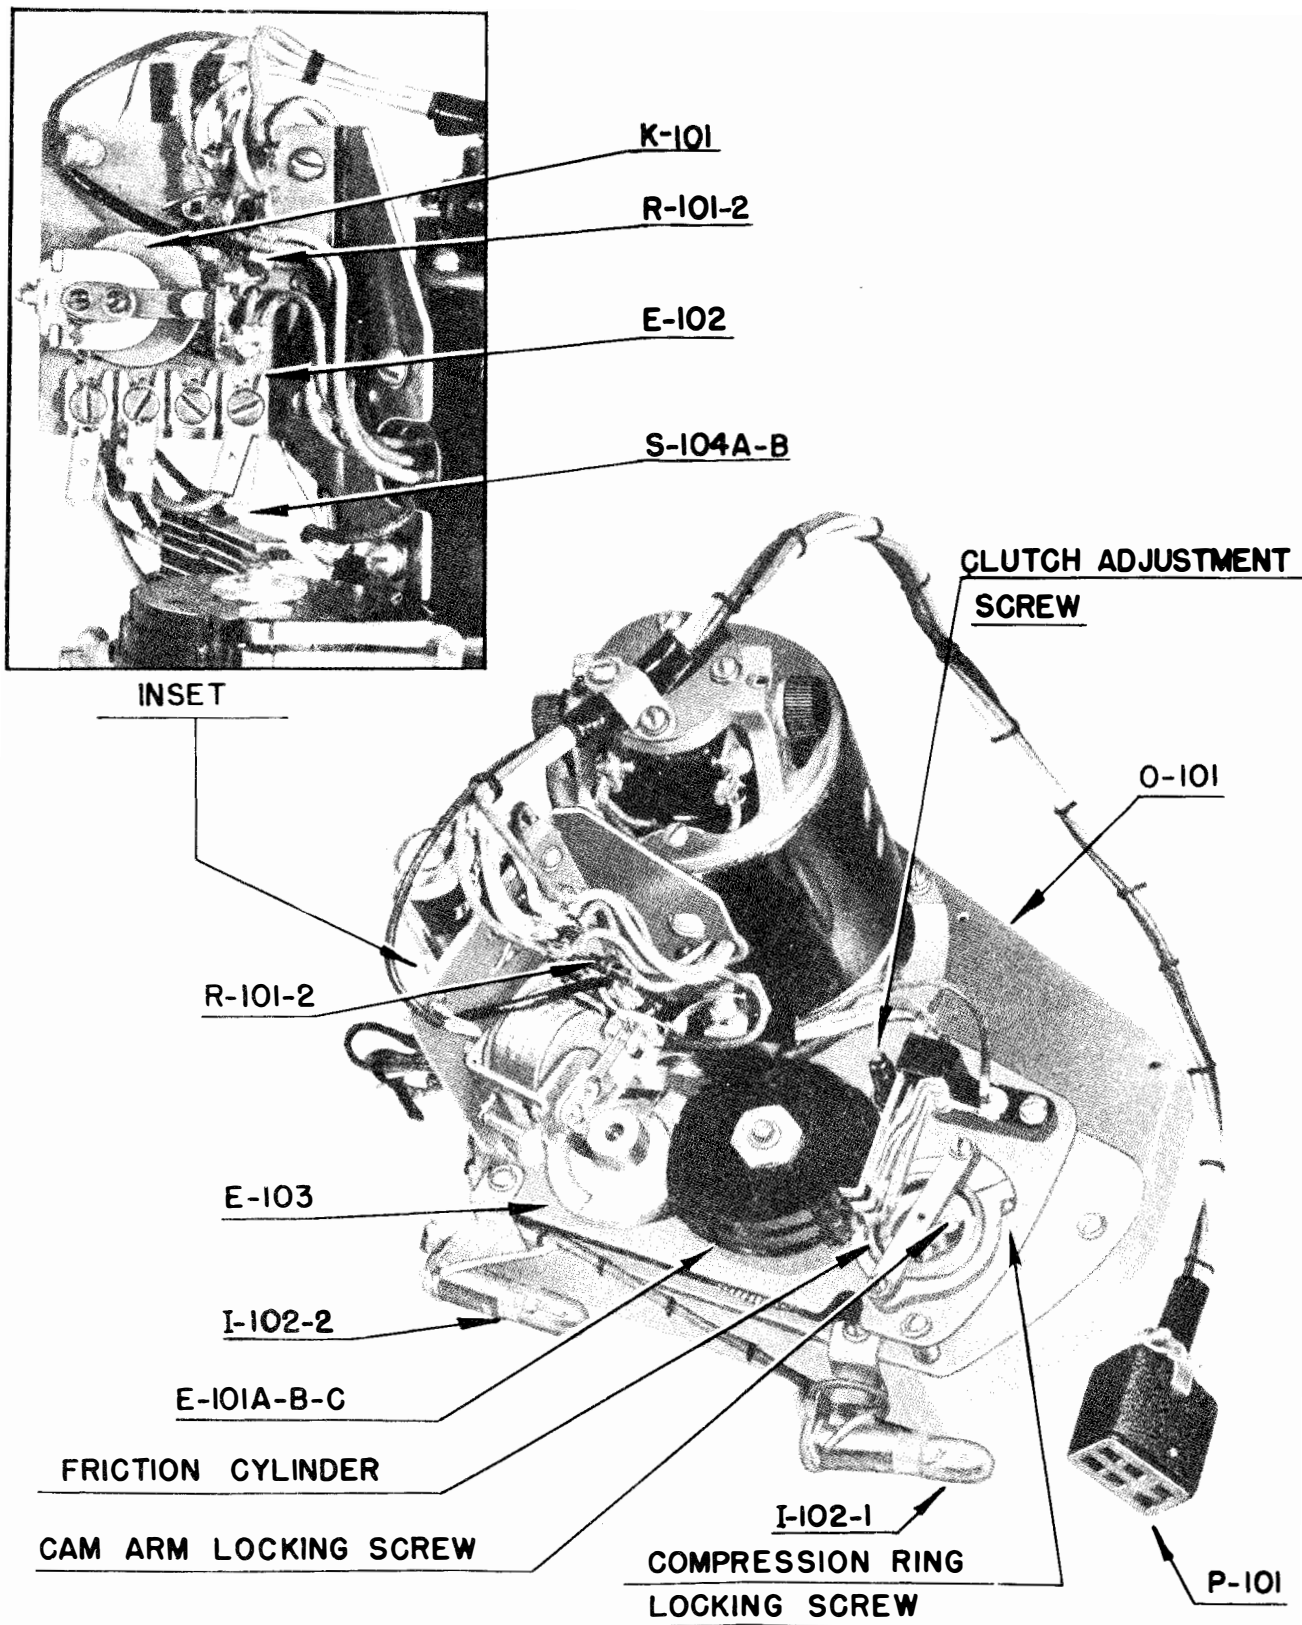

Figure 22—Gear Train and Keying Mechanism
d. If adjustment of the timing mechanism is ABSOLUTELY necessary, first try to correct by use of the fine adjustment. Loosen the compression-ring locking screw and rotate the friction cylinder; the conical inner surface causes the braking action to increase when the cylinder is rotated clockwise (lower speed) and causes the braking action to decrease when rotated counter-clockwise (higher speed). Rotate the friction cylinder by using a scribe or other sharp-pointed object in the holes provided in the cylinder (see fig. 22). Following this adjustment tighten the compression ring locking screw.
e. Loosen the cam-arm locking screw on the rotating assembly (see fig. 22) and move the cam arm to right or left, thus changing the spring tension. Turn clockwise for lower speed and counterclockwise for higher speed. Tighten the cam arm locking screw.
f. Synchronize the code wheel with the cam switch so that the cam switch completes its change-over in the one-second interval during which the code-wheel contacts are traversing the 72-degree space on the code wheel (see fig. 22). Make this adjustment as follows:
(1) Loosen the code-wheel lock-nut so that the code wheel turns freely on its shaft.
(2) Turn the crank until the cam-switch contacts are exactly in the center of their vertical travel (all cam-switch contacts open).
(3) Turn the code wheel until its contact operating fingers rest exactly in the center of the 72-degree space.
(4) Lock the code wheel in this position by tightening the lock-nut.